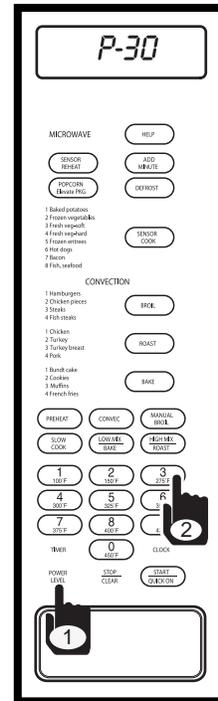

Figure 3-37.
2. Press POWER LEVEL key and number 3 key. Display will flash “P-30 - PRESS - START” (See Figure 3-37).